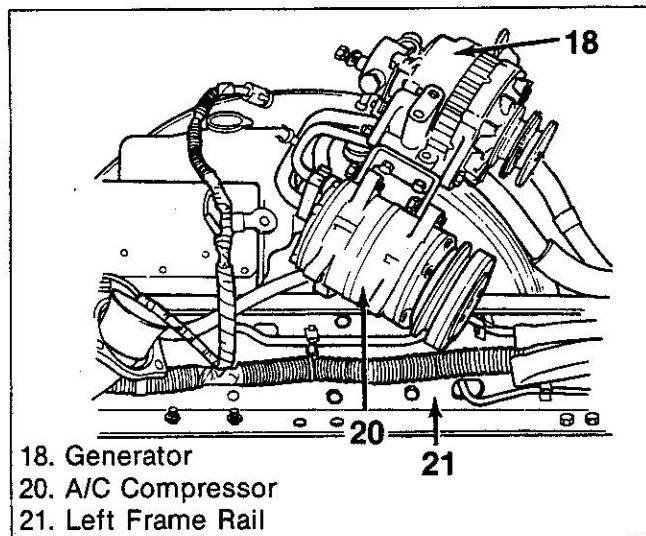

Figure 8. Generator and Air Conditioner (A/C) Compressor Removed
21. Generator (18) and air conditioning compressor (20) as a unit. Do not remove the hoses from the compressor (figure 8).